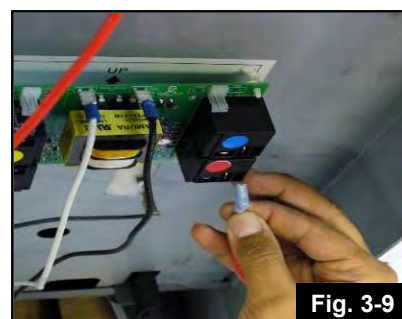

Fig. 3-9
1. Connect the flag connector on the RED relay wire to one terminal on the lower-right relay of the Safe-T-element® Controller (when looking at the STE controller from the back). (Fig.3-9)